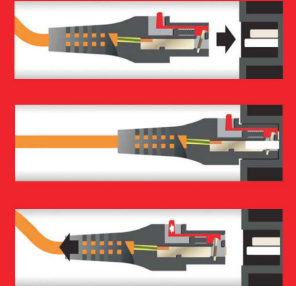

Figure 8: Frontal view of the electrical panel of the column
Connect the Power cable to the AC connector on the electrical panel of the column (Figure 8). The device can be connected at any level of voltage ranging from 90-240V~, 50/60 Hz (adjusted automatically to properly work in these ranges).
Make the connection between the multifunctional pedal cable and the electrical panel as indicated (Figure 8).
PLEASE NOTE: The illumination source only operates when the multifunctional pedal cable is connected to its connector (Figure 8).
- Shift the main switch on the control panel to OFF (Figure 5) and disconnect the power plug from socket (Figure 8).